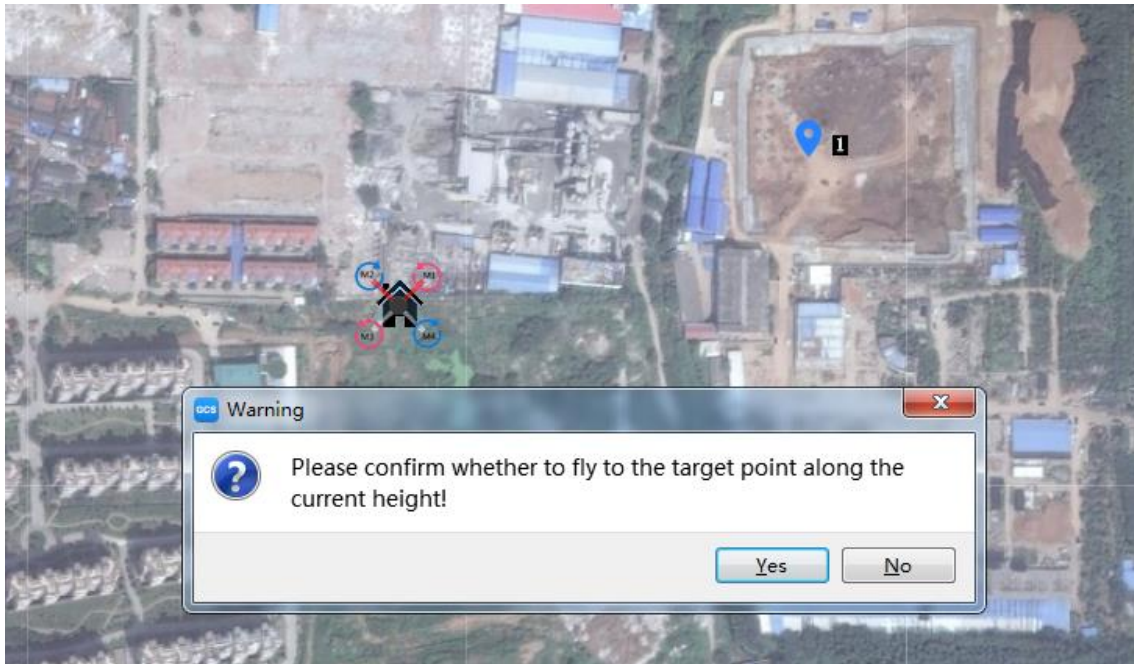

Figure 6 Click-to-fly Mode
Step2. Double click the target point on the map, and select "Yes" to perform the action in "warning" dialog box popping up, as shown in Figure 6.